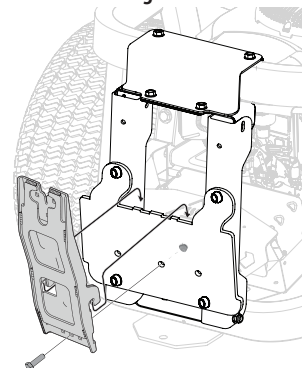

Figure 10
2. Install the vertical bagger support (683-04519C) onto the mounting assembly on the tractor by hooking it over the mounting assembly, as shown in Figure 10.
3. Secure the vertical bagger support to the mounting assembly using a hex bolt (710-06154B) from hardware pack 689-02619. See Figure 10.